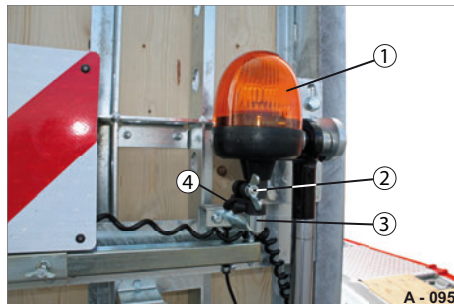

Fig. 96 Rotating light, installed
- ▶ Fit the rotating light (Fig. 96/1) onto the extension rod (Fig. 96/3).
- ▶ Tighten the wing nuts (Fig. 96/2) of the clamping screw.
- ▶ Release the wing nuts (Fig. 96/2) from the clamping screw.
- ▶ Remove the rotating light from the extension rod (Fig. 96/3). Keep the rotating light in a safe place to protect it from damage.